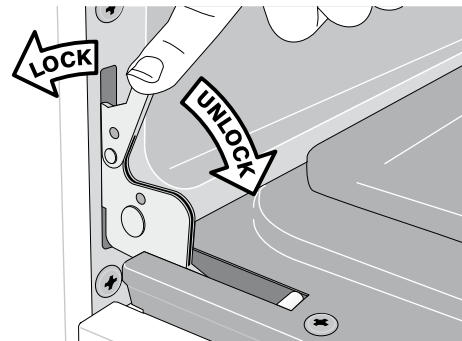

Figure 2 - Door hinge locks
4. Push the door hinge locks up towards and into the oven frame on both left and right oven door hinges (See Fig. 2) to the locked position.